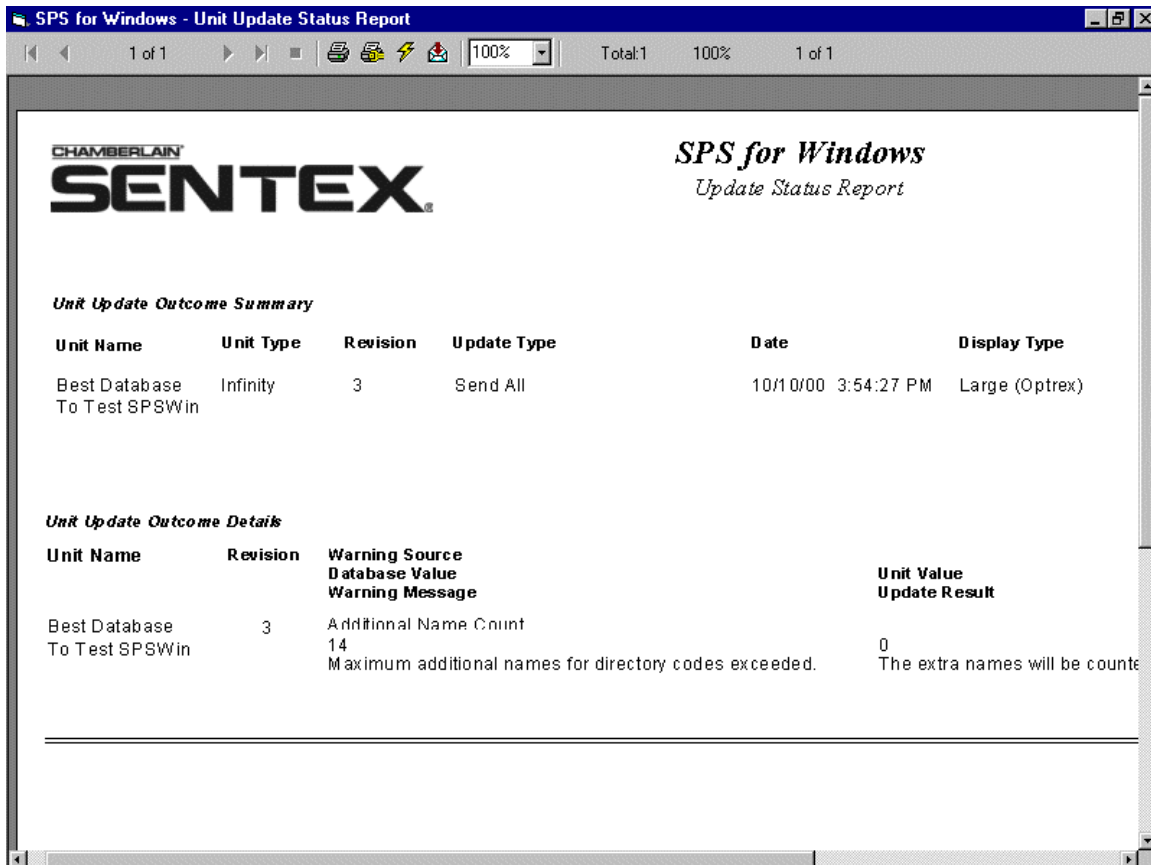

Figure 59: Unit Update Status Report Window
- If you wish to view the results before they are printed, make sure the View Before Printing box (at the bottom right of the window) is checked, then click on the OK button. The Unit Update Status Report (see Figure 59) will be displayed.